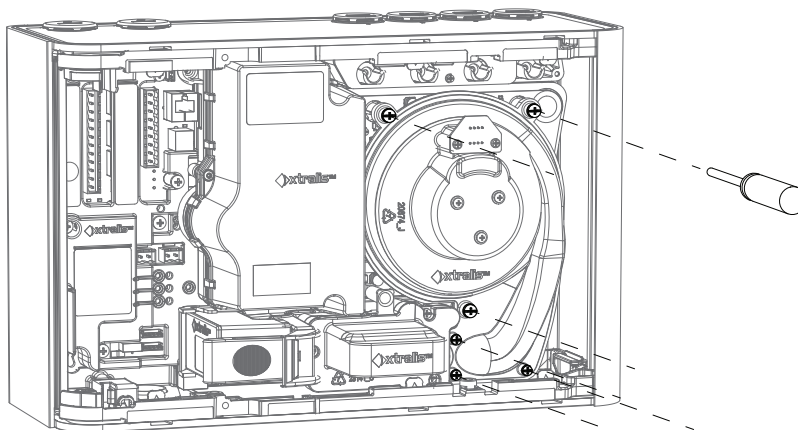

Figure 7-11: Remove aspirator mounting screws
4. Remove the six screws holding the aspirator to the detector base (Figure 7-11).